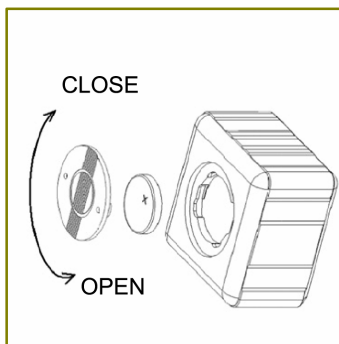

Figure 7
- 6 To replace the battery, rotate the plastic cover on the back of the gauge counter clockwise (see figure 7). The correct replacement battery is a CR2032 Lithium cell.